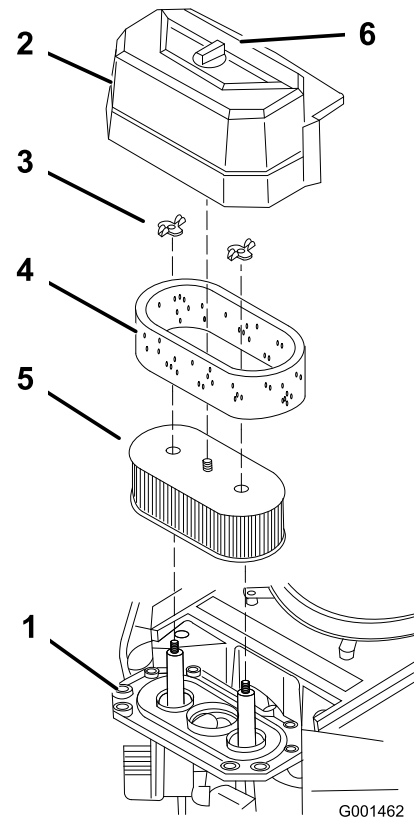

Figure 22
3. Clean around the air cleaner to prevent dirt from getting into the engine and causing damage (Figure 22).
4. Unscrew the cover knob and remove the air cleaner cover (Figure 22).
5. Remove the 2 wing nuts and remove the air cleaner assembly (Figure 22).
6. Carefully pull the foam element off the paper element (Figure 22).
1. Do not clean the paper filter. Replace it after 200 operating hours (Figure 22).
1. Carefully slide the foam element onto the paper air cleaner element (Figure 22).
2. Place the air cleaner assembly onto the air cleaner base and secure it with the 2 wing nuts (Figure 22).
3. Place the air cleaner cover into position and tighten the cover knob (Figure 22).